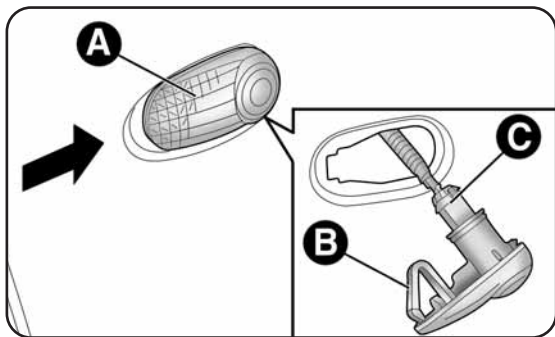

fig. 26
- work on lens A-fig. 26 to compress clip B, then pull the unit outwards;